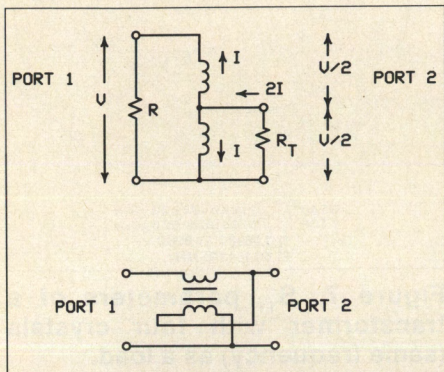
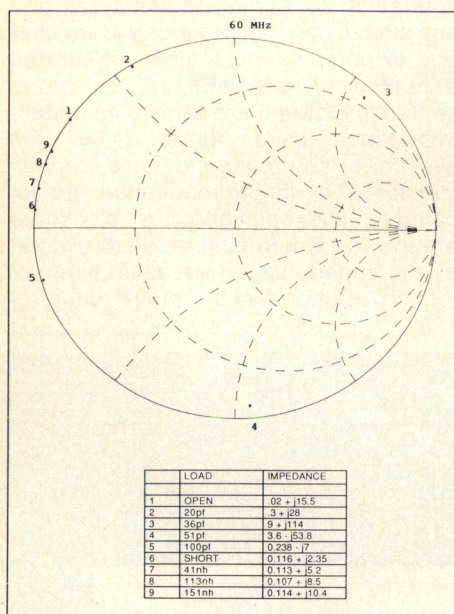
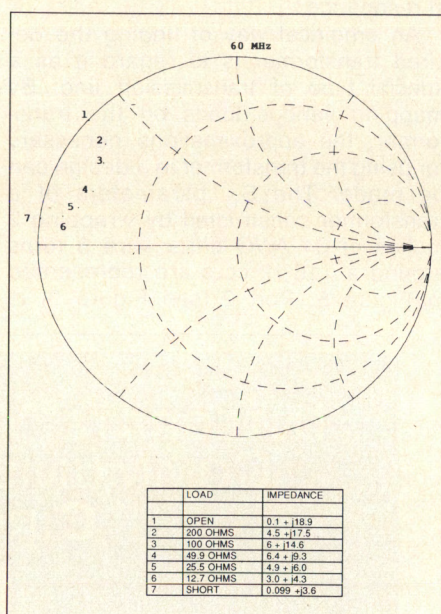
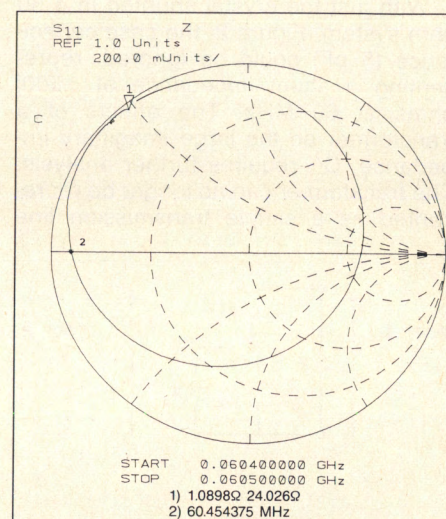

Figure 3. Transformer model.
Figure 5. S_{11} parameters of a transformer under various imaginary loads.
Figure 6. S_{11} parameters of a transformer under various real loads.
Figure 7. S_{11} parameters of a transformer with four crystals (same frequency) as a load.
An empirical way of finding the desired transformer is to regard it as a special type of transmission line. By mapping various loads on the transformer, the approximations necessary for using the transformer in a design can be made. The S_{11} parameters of a transformer constructed by wrapping 2 inches of 34 AWG bifilar wire 5 turns around a T16-12 core are represented in Figure 5. Port 2 (see Figure 3) is
connected to a network analyzer and one side of port 1 is grounded. The other end of port 1 is either open or shorted to make the measurements. Also represented in Figure 5 are various imaginary impedance loads. As in a 50 ohm system, or any real impedance, capacitive loads of large impedance are located near the open and move clockwise around the Smith Chart toward a short as the impedances decrease. Likewise, inductive impedances move counter-
clockwise from the open to the short as the impedances decrease. The major difference in the transformer network of Figure 5 is that the open and short nodes are skewed as seen from a reference of 50 ohms. Figure 6 displays various real impedances used as a load at port 1 so that the skewed real axis can be observed. With an accurate impedance chart of the transformer the crystal case load can be used as a matching element in a circuit.
Figure 7 represents the S_{11} of four crystals at the same frequency as a load of the transformer described above in a narrow frequency band near the crystals' resonance. As Figure 5 approximated, the crystals' load of about 20 pF appears as 24j ohms away from crystal resonance. Thus, the crystal/transformer network can be used as a 79 nH element with an unloaded Q of 22, yet at crystal resonance it will create a low impedance path of 2.5 ohms. The characteristic impedance of the transformer is approximately 77 ohms, it should be at least an order of magnitude lower to properly transform the cumulative series resistance of 6 ohms to 1.5 ohms. Normally in transformer construction the type and the length of wire are chosen to create the ideal Z_0 to transform a resistive load. However, a low impedance transformer with high inductance would be a physically large, difficult device to construct. In practice the attenuation penalty paid due to ignoring the ideal Z_0 is relatively slight, especially if the wire length is small compared to the wavelength (4).
inductance at least four times the load impedance can also be bent but as Figure 6 shows the high resistance loads are the furthest from the real axis. At the cost of reduced inductance (per number of turns) parallel bifilar wire was used for this transformer because it is less labor intensive than twisted wire.